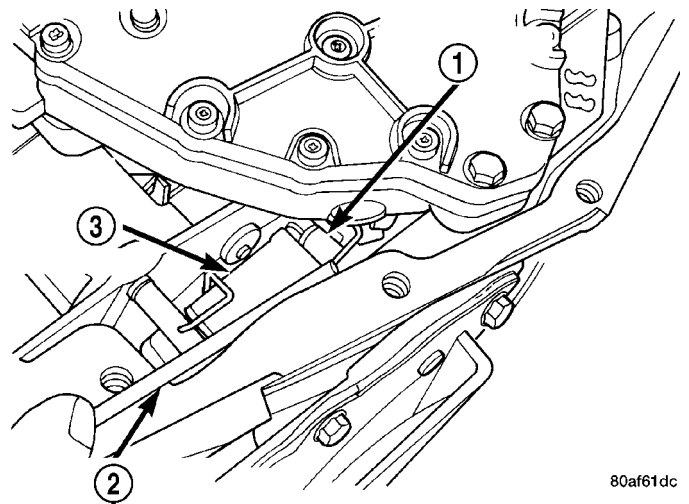
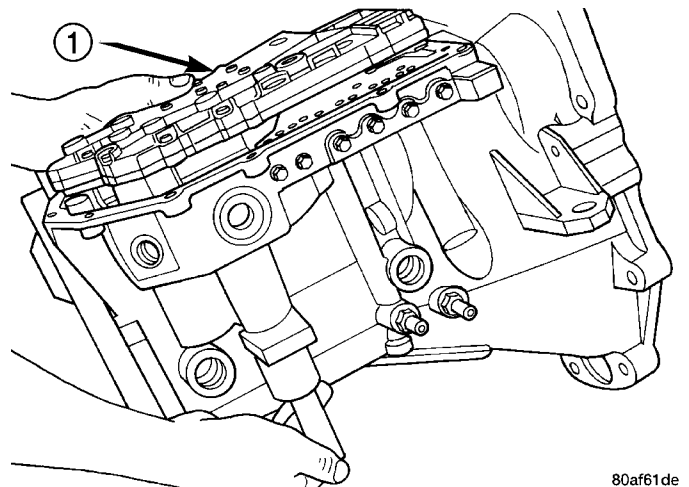

Fig. 315 Push Park Rod Rollers from Guide Bracket
Fig. 316 Valve Body Removal/Installation
(9) Remove park rod rollers from guide bracket and remove valve body from transaxle (Fig. 315) (Fig. 316).